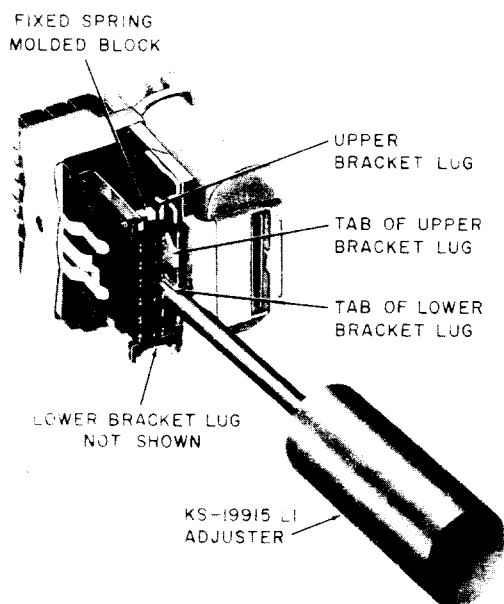
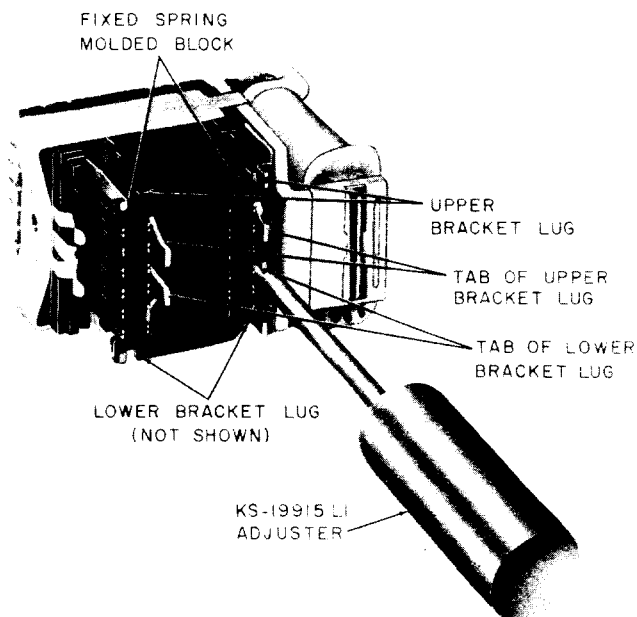

Fig. 12—Method of Adjusting Contact Separation (6-Position Relay Shown)
Fig. 13—Showing Tabs for Adjusting Legs on 12-Position Relay
(1) Adjustments to meet the make, break, and sequence contact requirements are made by adjusting the position of the associated fixed spring molded block. The block is repositioned by adjusting the bracket lugs which press against the upper and lower portions of the block (see Fig. 12). In the case of 12-position relays (see Fig. 13), two fixed spring molded blocks are used. For these relays, the contact requirements are met by repositioning each molded block as required. When a fixed spring molded block is repositioned, the fixed spring contacts are moved toward or away from the movable spring contacts, depending on the adjustment of the bracket lugs. The distance that each fixed contact is moved will vary in an inverse
(2) **Make Contacts:** To adjust the make contacts, place the KS-19915, L1, adjuster on the tab of the bracket lug to be adjusted taking care to avoid touching the contact springs (see Fig. 12). To increase the separation between the movable make and fixed contacts, rotate the adjuster slightly counterclockwise on the lower tab and clockwise on the upper. To decrease the separation, rotate the adjuster slightly clockwise on the lower tab and counterclockwise on the upper. When the contacts that require adjustment are located near the center of the relay, the best adjustment is usually obtained by adjusting both the upper and lower lugs of the bracket. After completing the adjustment, recheck the contact make and break and contact sequence requirements.
(3) **Break Contacts:** To adjust the break contacts, place the KS-19915, L1, adjuster on the tab of the bracket lug to be adjusted, taking care to avoid touching the contact springs (see Fig. 12). To increase the separation between the movable break and fixed contacts, rotate the adjuster slightly clockwise on the tab of the lower lug and counterclockwise on the upper. To decrease the separation, rotate the adjuster slightly counterclockwise on the tab of the lower lug and clockwise on the upper. When the contacts that require adjustment are located near the center of the relay, the best adjustment is usually obtained by adjusting both the upper and lower lugs of the bracket. After completing the adjustment, recheck the contact make and break and contact sequence requirements.
(4) **Sequence Contacts** (EMBs and EBM's): To adjust the sequence contacts, proceed as covered in (2) and (3) for make and break contacts, respectively.